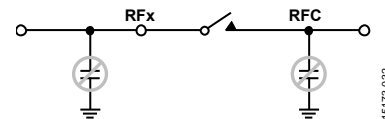

Figure 61. Avoid Having a Large Capacitor Directly Connected to the MEMS Switch
- Avoid connecting large capacitive terminations directly to the switch, as shown in Figure 61. A shunt capacitor can store a charge that potentially leads to hot switching events when the switch opens or closes, affecting the lifetime of the switch.